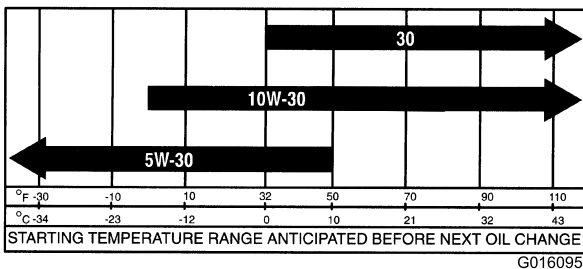

Figure 14
**Engine-oil viscosity:** 10W-30; Choose an engine-oil viscosity according to the ambient-air temperature to the table in Figure 14.